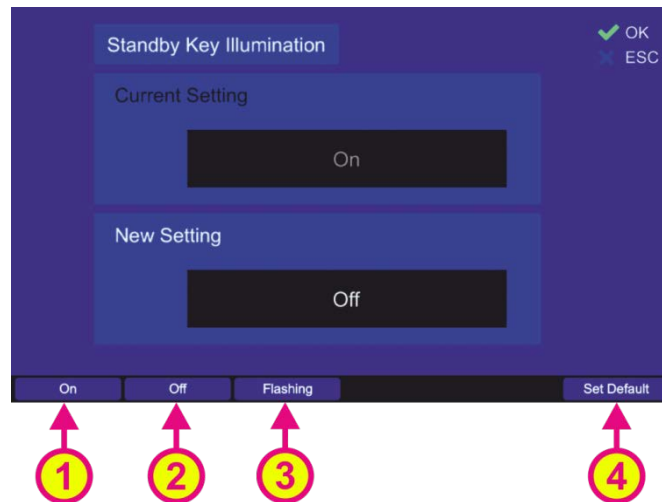

Fig. 95 Changing the standby key illumination setting
Following dialog opens (s. Fig. 95).
- Choose the “On”, “Off” or “Flashing” hotkey to set the desired variant of the key illumination (s. Fig. 95, positions 1, 2 or 3).
- Use the “Set Default” hotkey (s. Fig. 95, position 4) to reset the value to the default setting (Off).